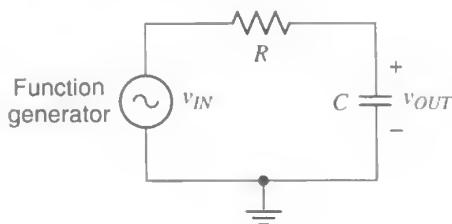
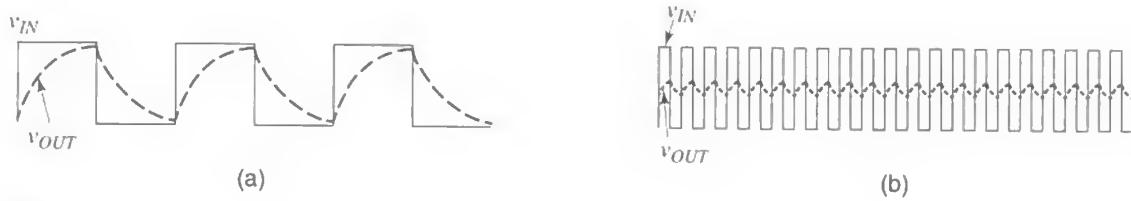
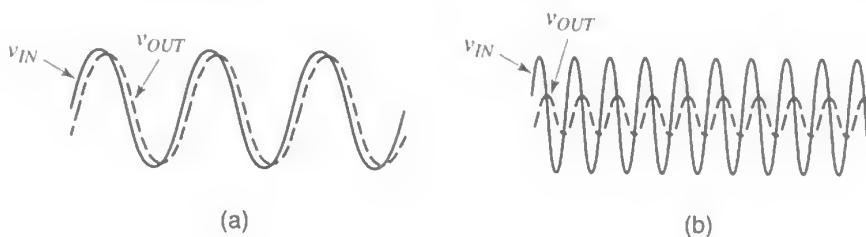
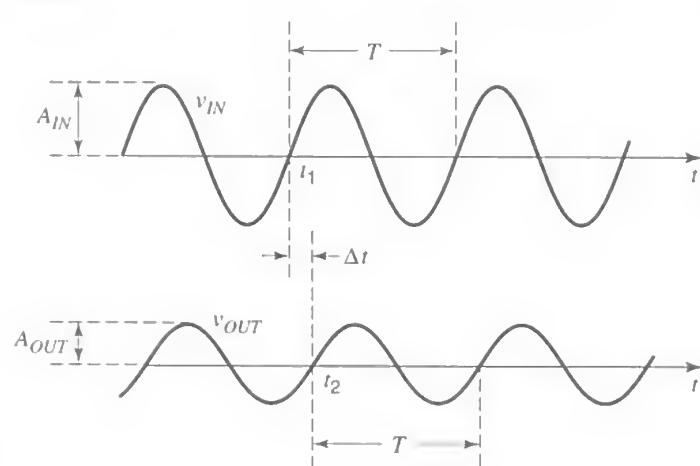

Fig. 1
Fig. 2
Fig. 3
Fig. 4
13. To verify your prediction in the previous step, you need to display the waveform for v_R . However, you *cannot* connect a probe's input across the resistor. If you did so, where would the ground clip of the probe be attached? If it were attached to the resistor terminal on the right, it would place a ground at that point, and then the capacitor would be shorted out since its bottom terminal is also at ground (see also Fig. 2 of Experiment 3 and the associated discussion). If, instead, the probe's ground clip were attached to the resistor terminal on the left, it would short out the function generator, which would be even worse, as damage could be caused to the generator. Voltages like v_R , defined across two terminals, neither of which is grounded, are sometimes referred to as floating voltages.
Consider the circuit of Fig. 1. In Experiment 6, you saw that if a square wave with a large period is applied to its input, the capacitor has the time to charge or discharge almost fully during each half interval, as shown in Fig. 2(a). The output then follows the input rather closely. If, however, the period of the input is made small, the output capacitor does not have time to charge or discharge fully, and the situation illustrated in Fig. 2(b) is observed. Now the output cannot follow the large excursions of the input, and its excursions become small.
These observations do not hold only for square wave inputs. Other shapes, such as triangle or sinusoidal, show qualitatively the same behavior. This is illustrated for a sinusoidal input in Fig. 3. As seen, low input frequencies allow the output to virtually follow the input, as seen in Fig. 3(a). We say that the low-frequency input signal “passes” to the output. On the other hand, when the input frequency is high, the output cannot follow the input, as shown in Fig. 3(b), and the output amplitude becomes small. The input signal, to a significant degree, is rejected, or “does not pass,” to the output. For these reasons, the circuit is said to be a *low-pass filter*. Many different circuits are low-pass filters, but we will concentrate on the simple one in Fig. 1 and study it in detail.
Because at very low frequencies the capacitor voltage is almost equal to the input voltage, as shown in Fig. 3(a), we say that “at very low frequencies, the capacitor in Fig. 1 acts almost as an open circuit.” Indeed, if the capacitor in Fig. 1 were replaced by an open circuit, the resistor current would be zero, and thus the voltage across the resistor would also be zero: the output voltage would then be equal to the input voltage. At high frequencies, on the other hand, the capacitor voltage is small, as shown in Fig. 3(b), and if the frequency is made very high the capacitor voltage is almost zero; because of this, we say that “at very high frequencies, the capacitor in Fig. 1 acts almost as a short circuit.” Indeed, if the capacitor in Fig. 1 were replaced by a short circuit, the output voltage would be zero.
Consider a linear circuit and assume that, at a given frequency, the input and output signals are as shown in Fig. 4. The amplitude of the input is A_{IN} , and that of the output is A_{OUT} . To indicate to what extent the input signal has passed to the output, we define the voltage gain magnitude, G :
The value of G depends on the circuit and the input frequency. For an amplifier, it can be much larger than 1. For the circuit of Fig. 1, it cannot exceed 1.
In Fig. 1, because the RC circuit shows some “inertia” (it takes time for the capacitor to charge or discharge before the output can rise or fall significantly), the various features of the sinusoidal output waveform (peaks, valleys, and zero crossings) appear to occur somewhat later than the corresponding features of the input waveform. We say that the output signal is *phase-shifted* with respect to the input signal. The phase difference between the output and the input can be determined with the help of Fig. 4. With the period T corresponding to 360 degrees, the phase difference between the two waveforms will be $[(\Delta t)/T] \times 360^\circ$, where $\Delta t = t_2 - t_1$, as shown in the figure. This is the phase by which the top waveform leads (is ahead of) the bottom one or, identically, the phase by which the bottom waveform lags (is behind) the top one. It is common to quote instead the phase by which the bottom waveform *leads* the top one; this is the *negative* of the above quantity and will be denoted by ϕ . Thus,
The values of G and ϕ depend on how fast the signal is varying in relation to the circuit's "speed." Consider, for example, the circuit of Fig. 1. We have seen in Experiment 6 that a measure of the circuit's "slowness" is its time constant, $\tau = RC$. Thus, a measure of the circuit's speed is the inverse, $1/\tau = 1/(RC)$. It is common to consider how the circuit behaves when the input's angular frequency ω (in rad/s) is equal to this measure. Since $\omega = 2\pi f$, where f is the frequency in Hz, we are interested in the behavior of the circuit at a critical frequency f_c for which $2\pi f_c = 1/(RC)$; thus f_c is given by
1. Connect the circuit of Fig. 1, using $R = 16 \text{ k}\Omega$ and $C = 10 \text{ nF}$. Set the input frequency at 1 kHz and its amplitude (peak value) at 2V. Monitor the input waveform on the scope's channel 1 and the output waveform on channel 2, with both channel inputs set at AC. Use $\times 1$ probes. The sensitivity of the two channels (V/div) should be the same, and the variable sensitivity control for each should be in the calibrated position. The trigger source selector should be at channel 1, the trigger coupling at AC, and the trigger slope at positive. You should be able to obtain a display like that in Fig. 4. Carefully establish the 0 level for each waveform by using the ground setting for each scope input, and align this level with a main graticule horizontal line, using the vertical position control.
6. The phase shift between the output and the input, ϕ , was defined under Background above. Measure this quantity, with the input frequency equal to the cutoff frequency f_c that you determined in step 3. To make this measurement easier, move one of the two waveforms vertically, so that its 0 level coincides with the 0 level of the other waveform (use the ground input mode on the scope to establish the 0 levels accurately). Then Δt can be easily estimated as the horizontal displacement between two zero crossings, as shown in Fig. 4.³ Is the phase shift at f_c approximately equal to the theoretically predicted value of -45 degrees?